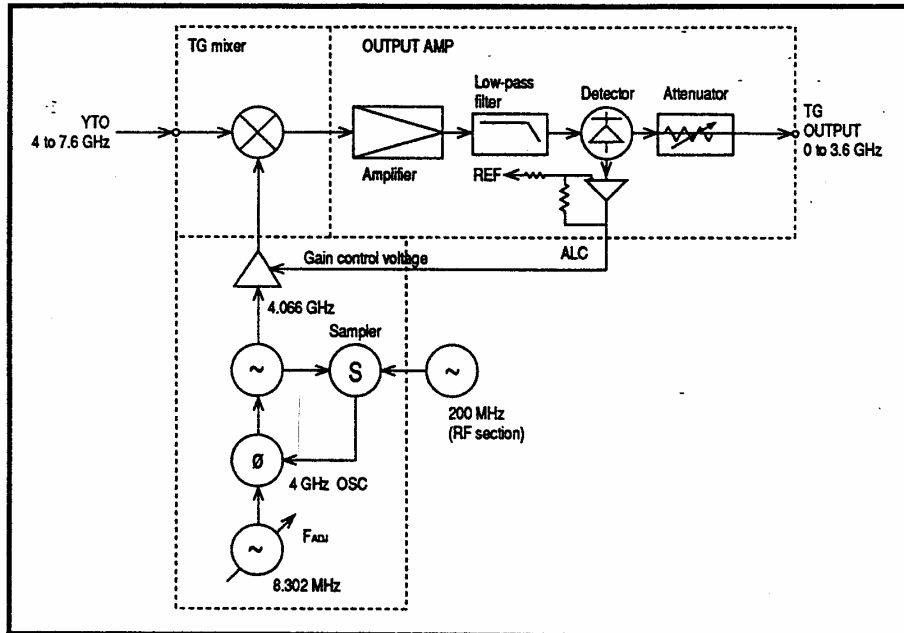

Figure 3-17 Tracking Generator Block Diagram
Figure 3-17 shows the circuitry for the tracking generator (TG). The TG contains the TG Mixer and an output amplifier to allow direct viewing of frequency attenuations of 115 dB or more.